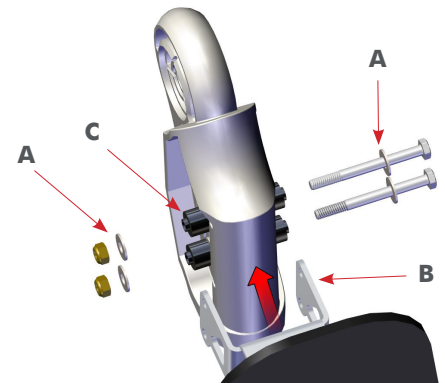

Figure 2
Step 2 Attach the Drift Paddle Stirrup mount to the knuckle using the supplied hardware. This hardware needs to go in the correct order to ensure the stirrup mount does not damage the knuckle or vice versa. **FIG. 2**